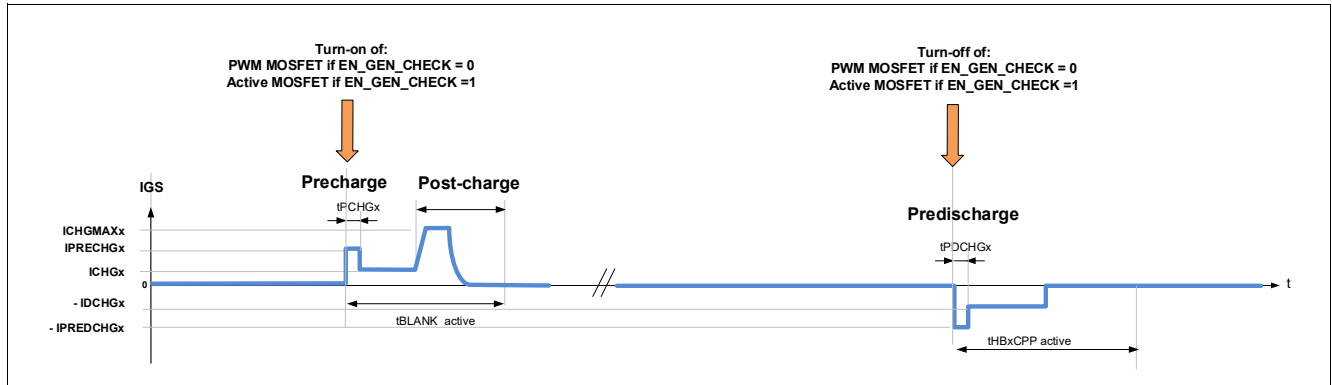

Figure 27 PWM overview - AGC = 10B or 11B, POCHGDIS=0 (post-charge enabled)
- **POCHGDIS** = 0: After the charge phase, the control signal for the charge current of LSx is increased by one current step at every bridge driver clock cycle (**BDFREQ**) to ICHGMAXx. Refer to **Figure 27**